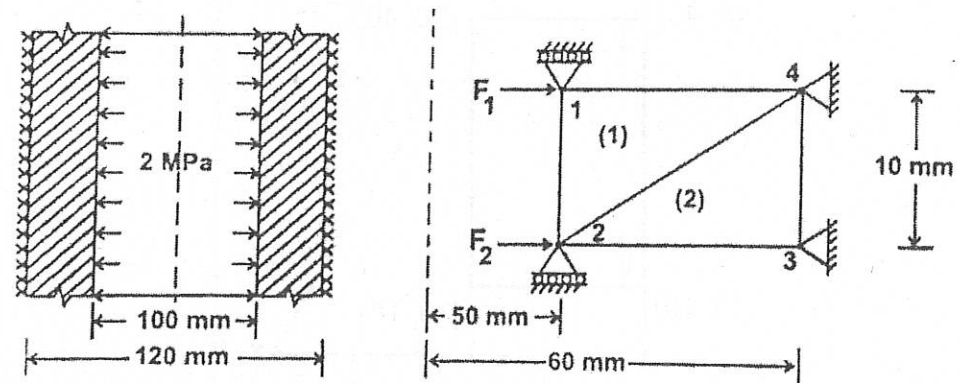

Figure. 9
- (b) A long hollow cylinder of inside diameter 100 mm and outside diameter 120 mm is firmly fitted in a hole of another rigid cylinder over its full length as shown in Figure 9. The cylinder is then subjected to an internal pressure of 2 MPa. Determine the  $[K]$  for element 2 by assuming  $E = 210 \text{ GPa}$   $\nu = 0.25$ .